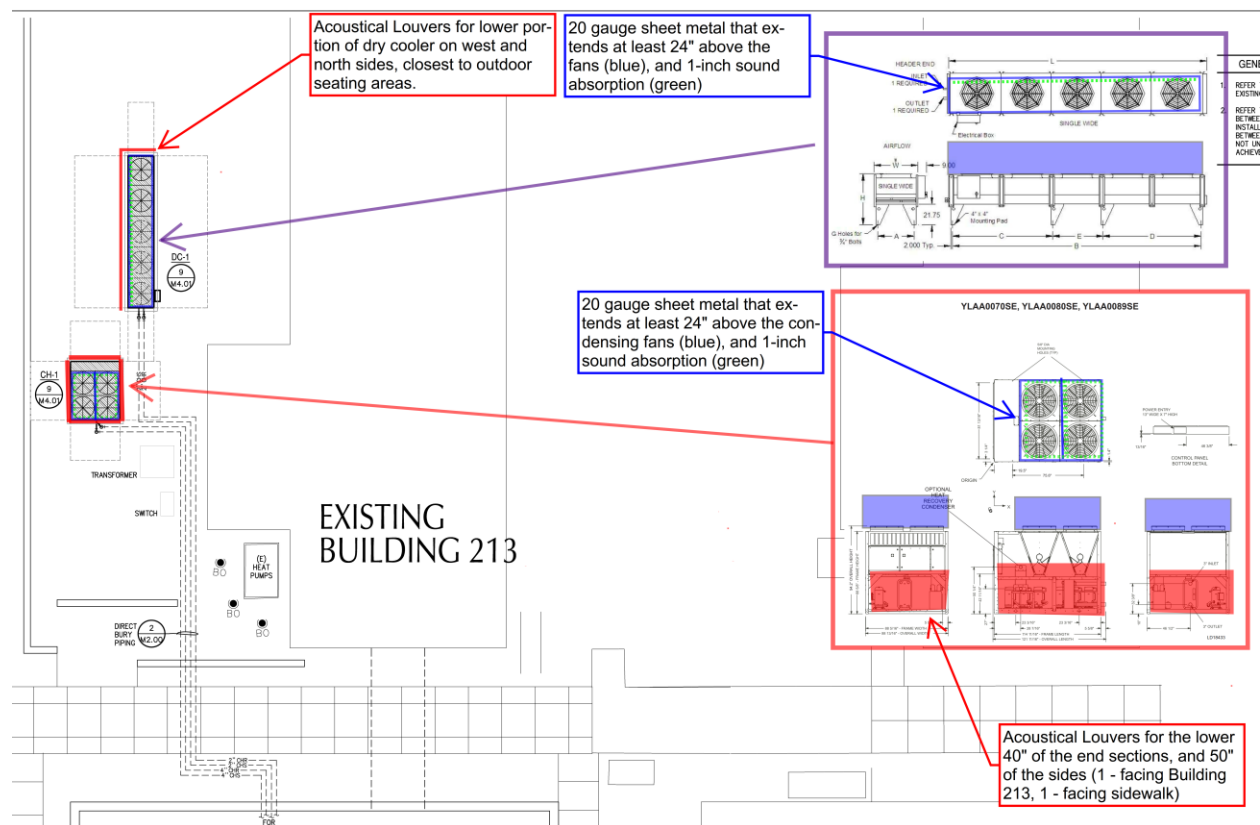

Figure 1: Option 1 - Noise Mitigation Plan
1. Install 6-inch deep acoustical louvers for the bottom 40-inches for the ends of the chiller, bottom 50-inches for sides of chiller, and bottom of plan north and west sides of Dry Cooler, highlighted red on Figure 1.
2. Install 20-gauge sheet metal that extends 24-inches above the condensing fans (shown in blue on Figure 1. Install sound absorptive liner to the inside face of the sheet metal to reduce reflected sound.